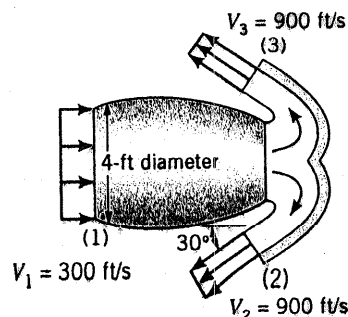

FIGURE P5.131
5.131 (See "Where the plume goes," Section 5.2.2.) Air flows into the jet engine shown in Fig. P5.131 at a rate of 9 slugs/s and a speed of 300 ft/s. Upon landing, the engine exhaust exits through the reverse thrust mechanism with a speed of 900 ft/s in the direction indicated. Determine the reverse thrust applied by the engine to the airplane. Assume the inlet and exit pressures are atmospheric and that the mass flowrate of fuel is negligible compared to the air flowrate through the engine.